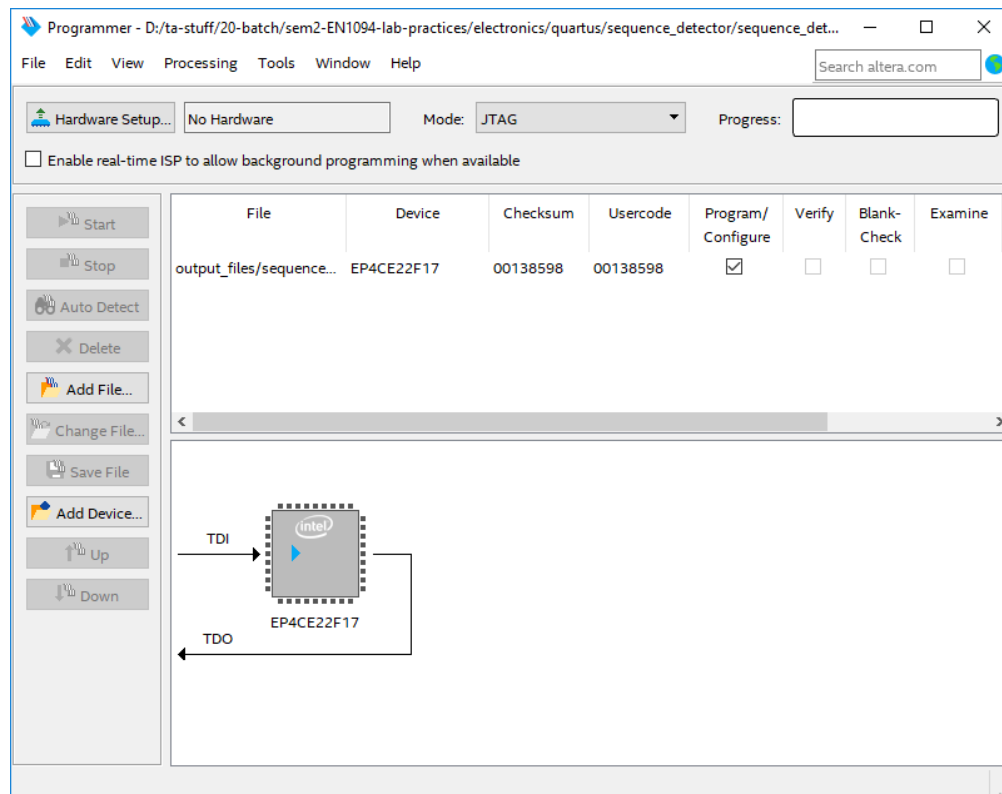

Figure 6.10: Programmer
1. Goto **Tools > Programmer** from the menu bar. It will open the **Programmer** (see Figure 6.10).